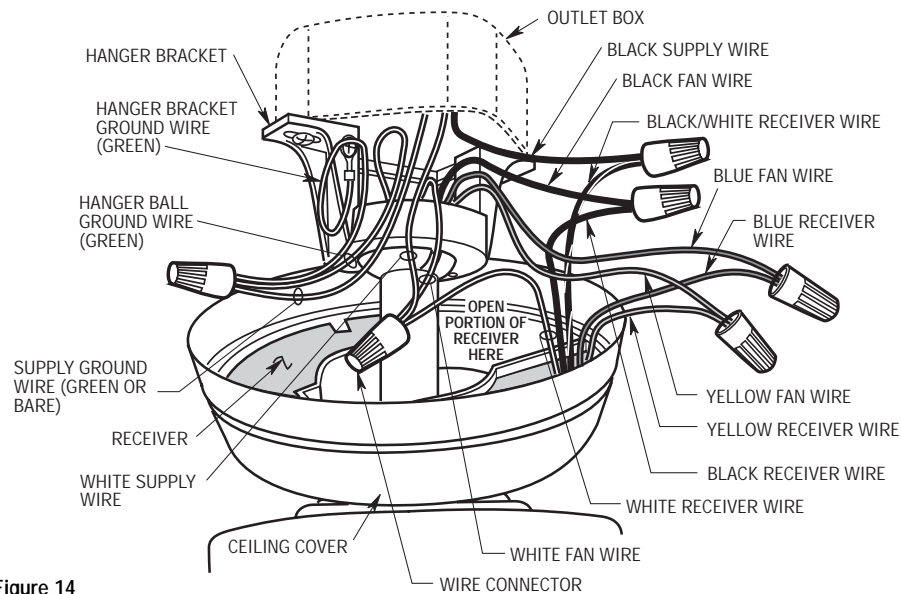

Figure 14
25. Pull the wire leads, coming from the end of the downrod, and the supply wires through the open side of the hanger bracket. (Figure 14).
26. Position the SW105 Receiver in the ceiling cover so that the flat side of the receiver faces up and the open portion of the receiver is to the right, as shown in Figure 14.
27. Using wire connectors (supplied), make wiring connections as follows (Figure 14 and 15):